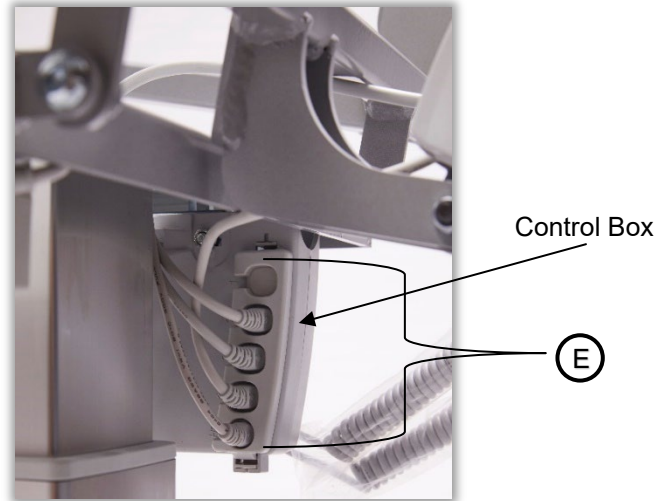

FIGURE 4. CABLES ON CONTROL BOX
9. Disconnect all the cables (**E**) from the control box (**Figure 4**). It is recommended to number the cables while disconnecting them, to ensure they are connected into the corresponding ports of the new control box.
6. Disconnect the battery cable from the control box (**Figure 4, (E)**).